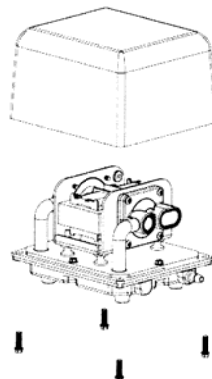

Figure 1
- A. Loosen the four screws around the aluminum upper cover, and take the cover off. (As shown in figure 1)